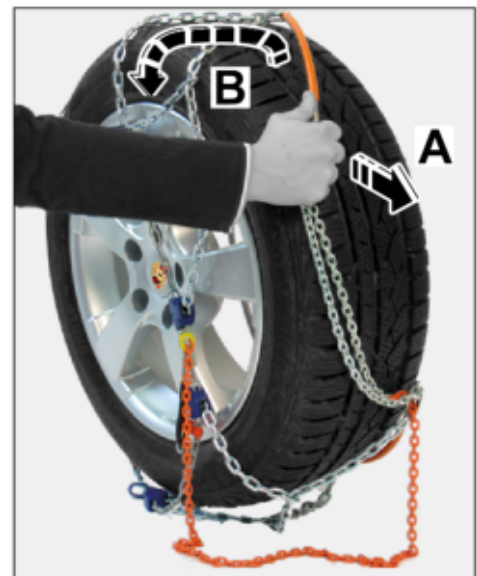

Figure 19
3.4.1 If the end of the spring steel clip is visible: Pull the ends of the spring steel clip apart as far as possible (⇒ *Figure 19 -A-*) and pull the snow chain off the wheel from above (⇒ *Figure 19 -B-*).